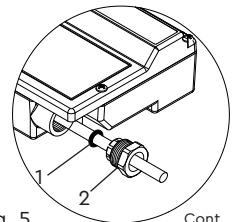

Fig. 5
To enable correct assembly of the cable gland the 'O'-ring (Fig. 5 item 1) must be placed over the cable before the clamping insert (Fig. 5 item 2) can be tightened.